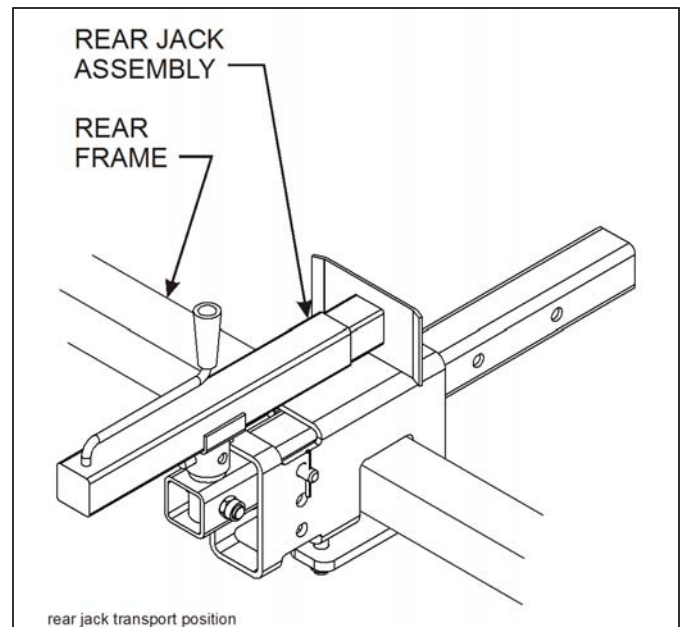

Figure 4-21: Rear Jack Transport Position
12. Be sure to disassemble rear jack assembly and move into transport position. See Figure 4-21 before moving machine.